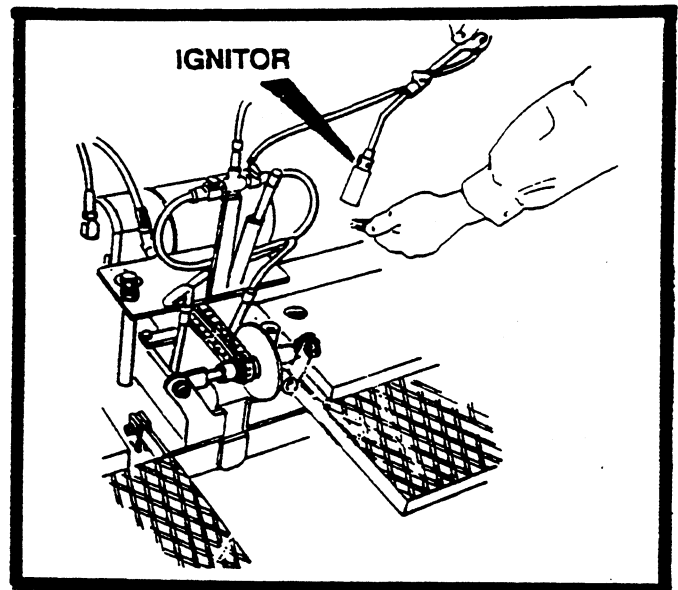

FIGURE 11
3. Light ignitor as you open the ignitor valve. See figure 11.